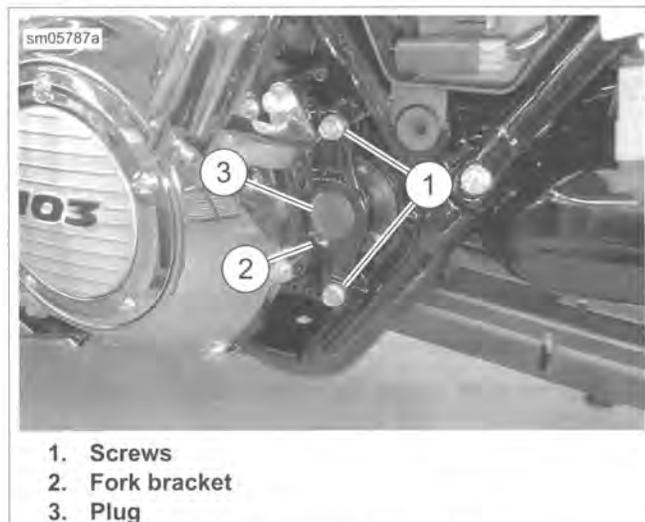
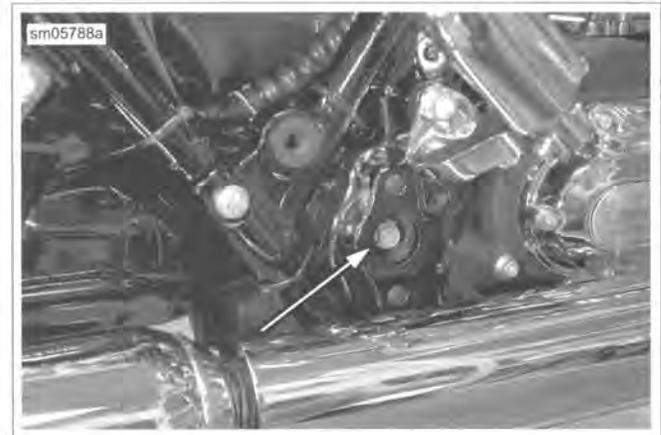
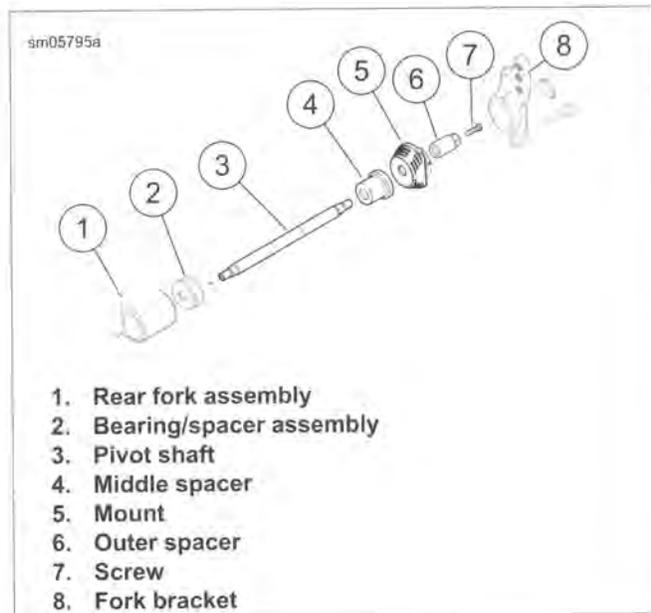

Figure 2-77. Rear Fork Mount Bracket
Figure 2-78. Right Side Mount
Figure 2-84. Pivot Shaft Components
5. See Figure 2-77. Remove two screws (1) to free left rear fork bracket (2) with foot rest.
8. See Figure 2-78. Hold left side hex spacer and remove right side screw from pivot shaft. Remove outer spacer.
1. See Figure 2-84. Remove screw (7).
2. Remove outer spacer (6), rubber mount (5) and middle spacer (4).
6. See Figure 2-84. Slide middle spacer (4) onto left end of pivot shaft (3) until seated against shoulder.
7. Install left rubber mount (5) with the flat side inboard.
8. Install outer spacer (6).
9. See Figure 2-77. Rotate the left rubber mount so the slot is between the eleven and twelve o'clock positions. Install left side fork bracket (2) fitting index tab into slot of rubber mount.
10. Apply two drops of LOCTITE 243 MEDIUM STRENGTH THREADLOCKER AND SEALANT (blue) to threads of fork bracket screws (1). Secure left side fork bracket. Tighten to 55-65 ft-lbs (74.6-88.1 Nm). Remove plug (3) from left side.
11. See Figure 2-78. Apply two drops of LOCTITE 243 MEDIUM STRENGTH THREADLOCKER AND SEALANT (blue) to threads of both pivot shaft screws and install. Tighten to 55-65 ft-lbs (74.6-88.1 Nm).